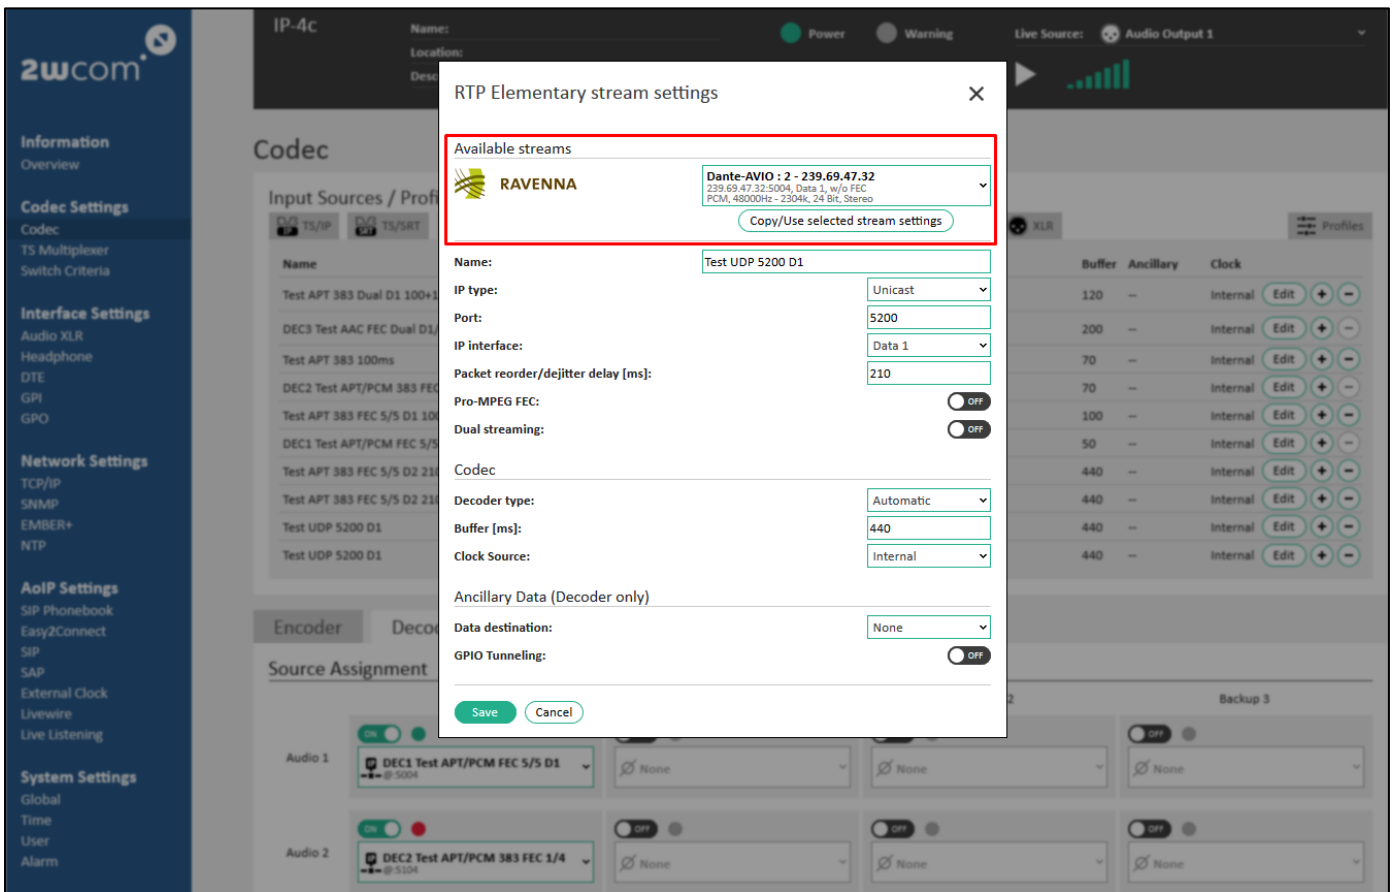

Figure 64: Input Source Settings for Elementary Streams
- a) Choose a RAVENNA stream in the “available streams” menu (see red frame in Figure 64).